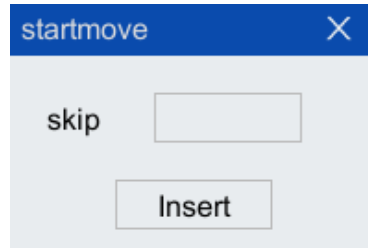

Figure 5-45 "Startmove" instruction configuration interface
Step1.Click "Insert Cmd> Process Control> startmove" option in the toolbar of the program editor to pop up "startmove" instruction interface, as shown in Figure 5-45.